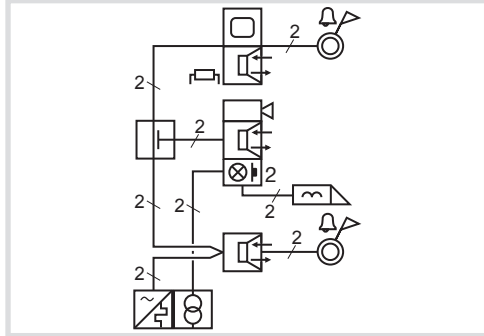

Figure 7: 2-wire – Installation of floor door station
- Floor door stations and apartment door stations can only call indoor stations in their own line (branch) (Figure 7 and 8). A ... F is adjustable as address for floor door stations or apartment door stations.